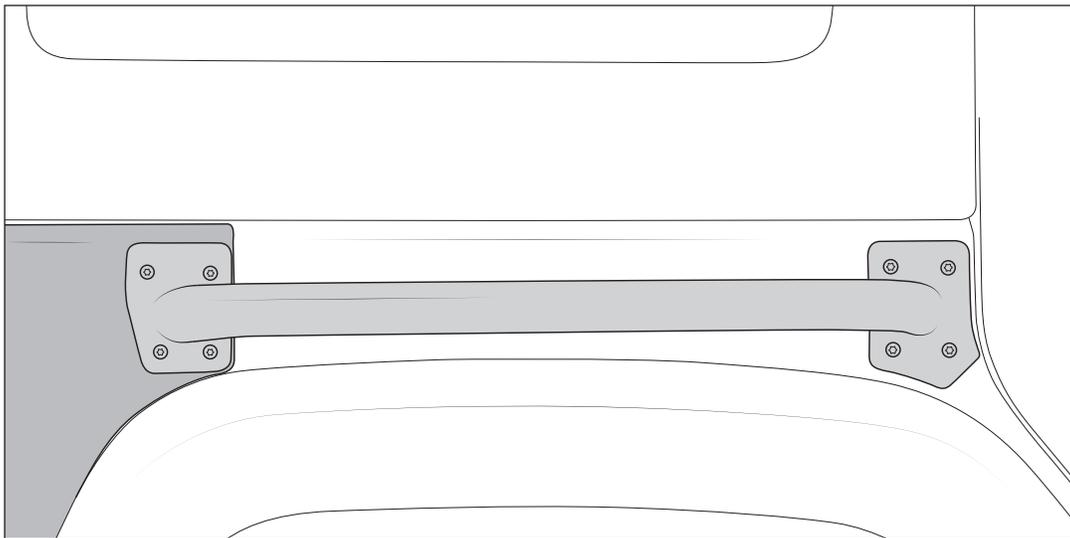

Figure 5
8. Apply anti seize to all bolts and install (fig. 5).